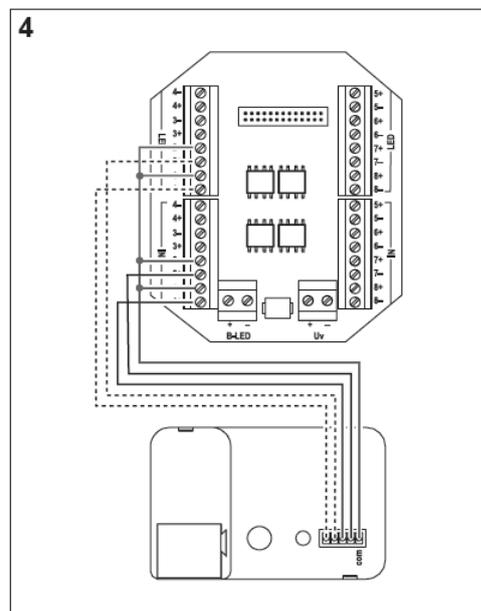

Figure 4
- Route cables of outputs **A1** and **A2** into terminals **1+** and **2+** of the **LED** terminal block on the adapter (Figure 4) and tighten screw terminals.
- Route cables of inputs **E3** and **E4** into terminals **1+** and **2+** of the **IN** terminal block on the adapter (Figure 4) and tighten screw terminals.